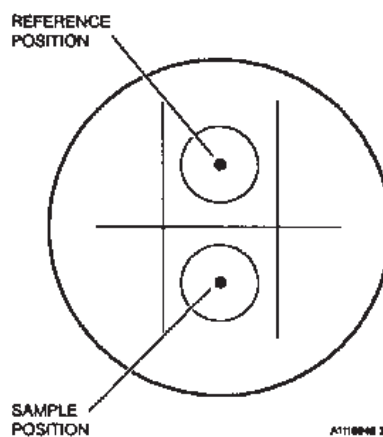

Figure 3.4
2. Carefully place the sample pan on the front raised platform and the reference pan on the rear platform. Centering the pans within the grid will ensure that they are centered on the platforms (see Figure 3.4).